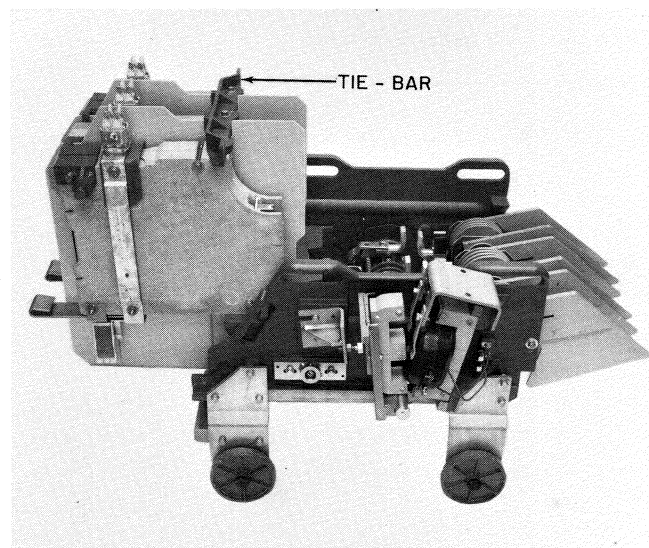

Fig. 27. IC2814E220 contactor with disconnect assembly and pole pieces rotated to the service position
3. Rotate the disconnect assembly to the service position and remove the tie bar (see Fig. 27). Care should be taken to insure that holes in the chute and tie bar that contain roll pins are not damaged.
1. Rotate disconnect assembly to position for one high contactor as shown in Fig. 27, so that the assembly is supported by the interphase barriers. Place blocks under the blowout base to support it when the side has been removed.